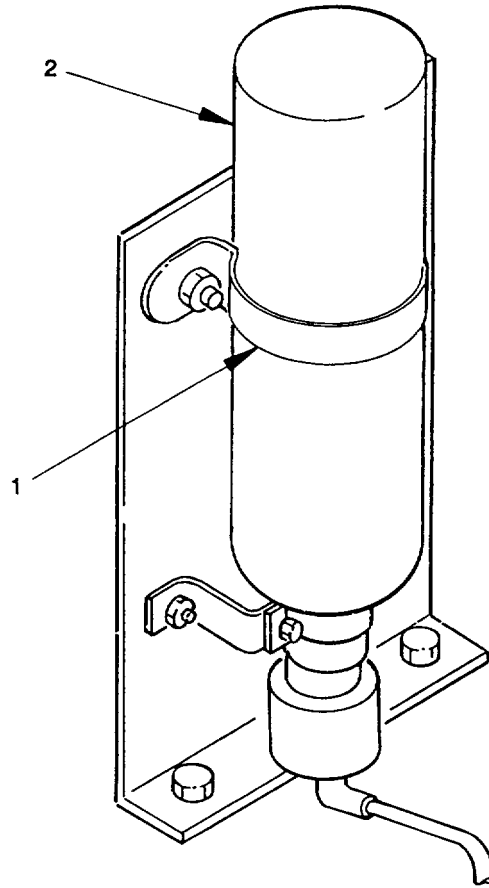

Figure 2-11. Cold Pack Starting Aid, Diesel Engine, Remove/Install.
a. *Remove.* (figure 2-11)
- (1) Clean all dirt from neck of cylinder and top of valve before removing the fluid cylinder.
- (2) Loosen cylinder clamp (1).
- (3) Remove cylinder (2) by turning counterclockwise. Protect top of valve from dirt when cylinder is removed by installing the yellow valve cap.
2-18. Cold Pack Starting Aid, Diesel Engine (Cont).b. *Install.* (figure 2-11)